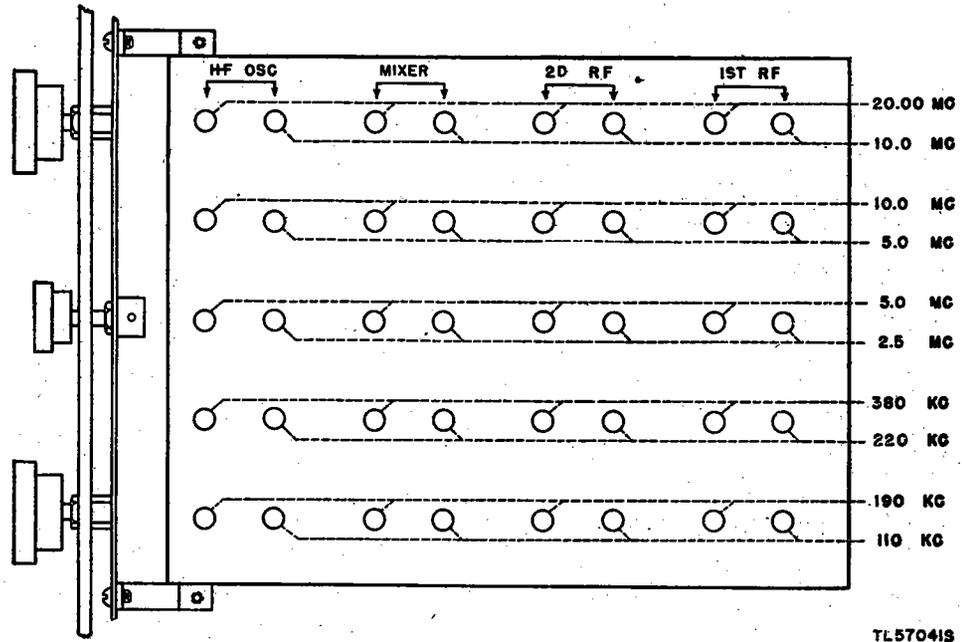

Figure 46. Radio Receiver BC-779-(\*), alinement chart.
shown in figures 46, 47, 48, and 49, respectively. If necessary, the second harmonic can generally be used when the fundamental frequency is not available. For example, a signal generator covering all frequencies from 100 kc to 20 mc, in addition to being ideal for checking Radio Receiver BC-779-(\*), could be used to check Radio Receiver BC-794-(\*), by using the second harmonic of 20 mc instead of the 40 mc called for in figure 47. The signal generator should have an output of about 100 microvolts and an output impedance of approximately 100 ohms for best results when alining the r-f and h-f oscillator circuits. For i-f alinement these values are not critical. The frequency calibration of the signal generator is extremely important in order that the receiver dial calibration be correct.
b. To correct dial calibration, refer to an alinement chart, figure 46, 47, 48, or 49 for the location of the h-f oscillator adjustments as well as the signal frequencies at which the settings should be made. If the 2.5- to 5.0-mc band is to be corrected, the signal generator may be *accurately* set to 2.5 mc and its second harmonic (if strong enough) used for the 5.0-mc end of the band. In either case, whether the 5.0-mc frequency is the fundamental or second harmonic, the 5.0-mc frequency *must* be accurate. This requires that the setting of the signal generator be accurately adjusted by the use of a frequency meter as described in paragraph 94. The output of the signal generator should be unmodulated and the SIGNAL MOD-CW switch on the receiver turned to CW. Set the BEAT OSCILLATOR control at 0, the AUDIO GAIN at 10, and the AVC-MANUAL switch on MANUAL. Disconnect the output meter and use headphones or loudspeaker to make the necessary adjustments by the zero beat method. Connect the signal generator to the antenna terminals for this test.
c. Set the receiver MAIN TUNING dial to the 5.0-mc end and then tune it to zero beat with the 5.0-mc output of the accurately calibrated signal generator. Notice the approximate dial error. Then turn the MAIN TUNING dial slightly toward the 5.0-mc calibration line until the beat note rises to a high pitch. Do not turn the dial far enough to raise the beat note so high that you cannot hear it. With the alinement screw driver adjust the trimmer capacitor marked H-F OSC-5.0 MC (fig. 46, 47,
48, or 49) until the beat note is again zero. Turn the MAIN TUNING dial still farther toward the 5.0-mc line and make a further adjustment of the trimmer capacitor to return to zero beat. Repeat this procedure as many times as necessary to bring the dial to exactly 5.0 mc. (It is evident that the dial could be set at once on exactly 5.0 mc and the trimmer turned enough at one time to produce zero beat, but the step-by-step method is recommended). Accurately set the signal generator to 2.5 mc by calibrating it with the frequency meter. Then tune in the 2.5-mc signal at the 1-f end of the MAIN TUNING dial and correct the calibration step-by-step, as before, using the inductance trimming adjustment H-F OSC-2.5 MC (fig. 46, 47, 48, or 49). Accurately set the signal generator for an output of 5 mc again, and tune the receiver to this frequency. It will be found that the adjustment of the inductance at 2.5 mc has changed the correction previously made at 5.0 mc. This is perfectly normal, because an adjustment at one end of the dial also affects the other end of the band. It will therefore be necessary to go back and forth several times from 2.5 to 5.0 mc in order to bring both ends of the dial scale into exact agreement with the signal frequency. Be sure that the signal generator is always *accurately* set.
c. Starting with the 2.5- to 5.0-mc band, set the MAIN TUNING dial at 5.0 mc (band spread dial at 100) and adjust the frequency of the signal generator for peak deflection of the output meter. Then check and adjust the setting of the trimmer marked MIXER and 5.0 MC in figure 46, 47, 48, or 49 for maximum reading on the output meter. Repeat this procedure on trimmers indicated as 2D RF and 1ST RF in the same row. If readjustments on one of these settings result in a sizable increase in output meter reading, slightly alter the SENSITIVITY control to reduce the reading to half-scale. After each adjustment check the tuning of the receiver to make sure that the test signal is still accurately tuned. The BAND SPREAD control may be used as a vernier for this purpose in those bands in which it operates (par. 15c). *This tuning check is extremely important at the high end of the 10- to 20-mc and 20- to 40-mc bands where there is some slight interaction between the mixer and h-f oscillator circuit.* After checking the three trimmers at the high end of this band, turn the MAIN TUNING dial to 2.5 mc and retune the signal generator to suit. Then check the three inductance adjuster settings marked 2.5 mc in the same row. Since adjustments at one end of a band also affect the other end of that band, it will be necessary to repeat the above procedure until no further improvement can be secured. The number of repetitions necessary will depend on how much mistuning existed to start with. Check the rest of the bands in the same manner.